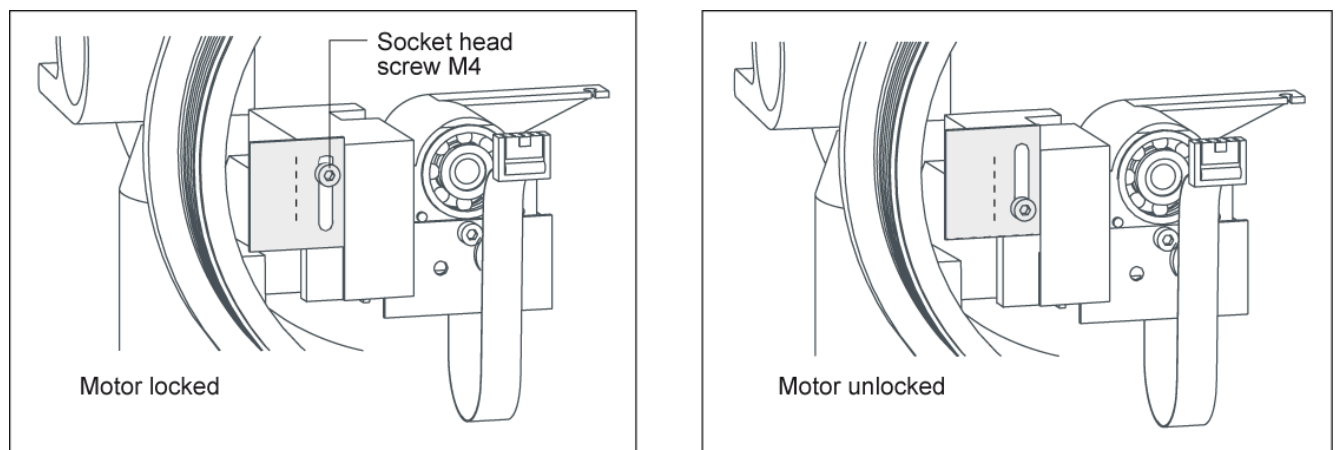

Figure 3.5 Motor block (un)locked
- Locate the motor locking latch (refer to figure 3.5). Loosen (do not remove) the Allen key screw and slide the locking latch the opposite way. Use screwdriver for Allen key screws M4 (item 6 of the Enraf tool set).